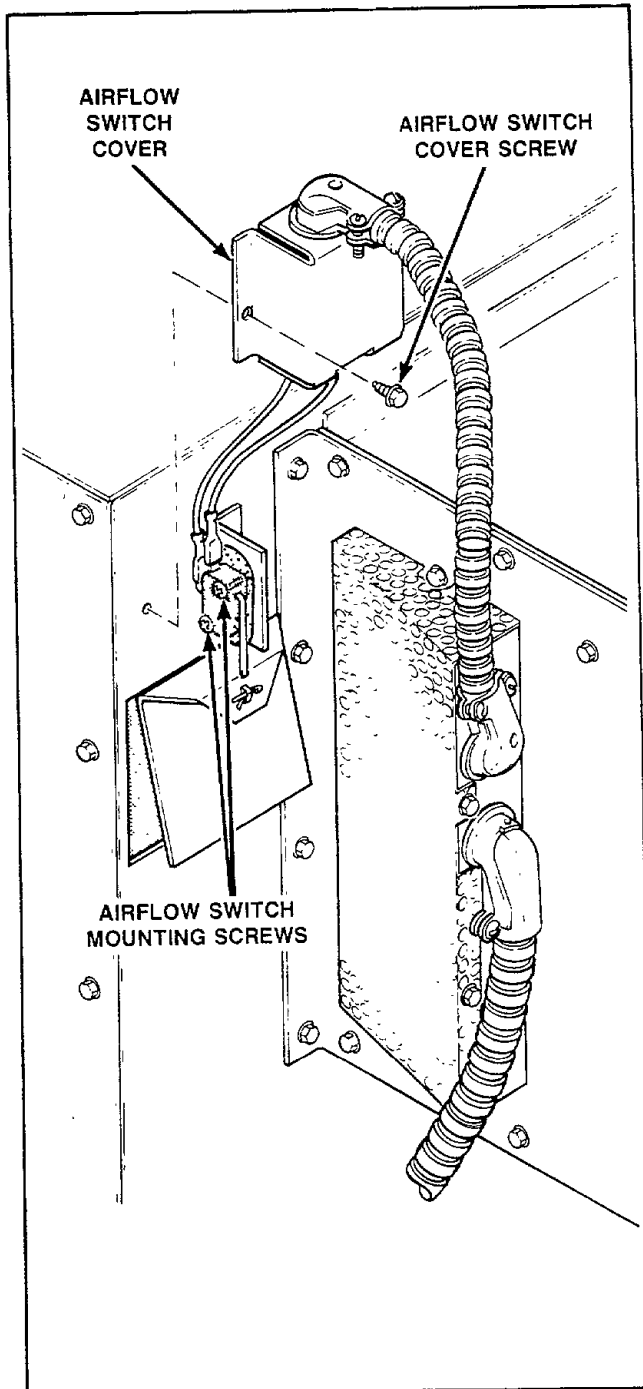

Figure 20
24. AIRFLOW SWITCH (Figure 20)